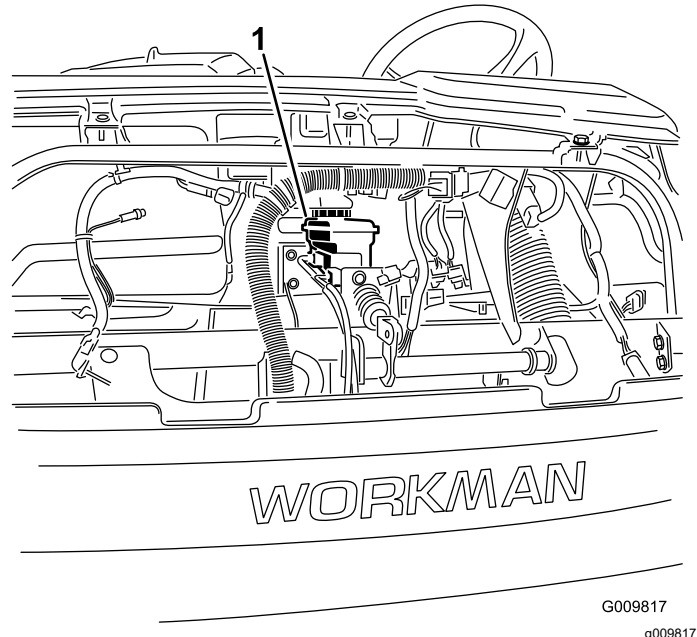

Figure 56
4. Raise the hood to access to the master brake cylinder and reservoir (Figure 56).